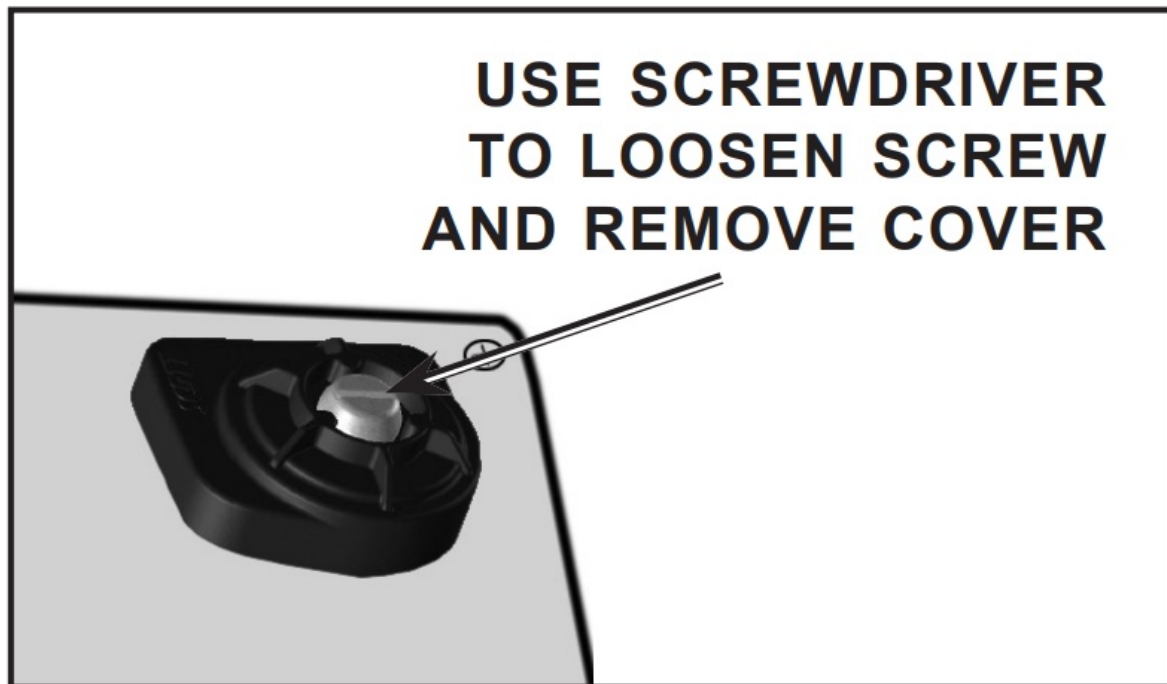

FIGURE 1
(2) front latches and opening the cover.
3. Use a screw driver to remove the Battery Housing Cover as shown in FIGURE 1. Carefully remove the cover and set aside.